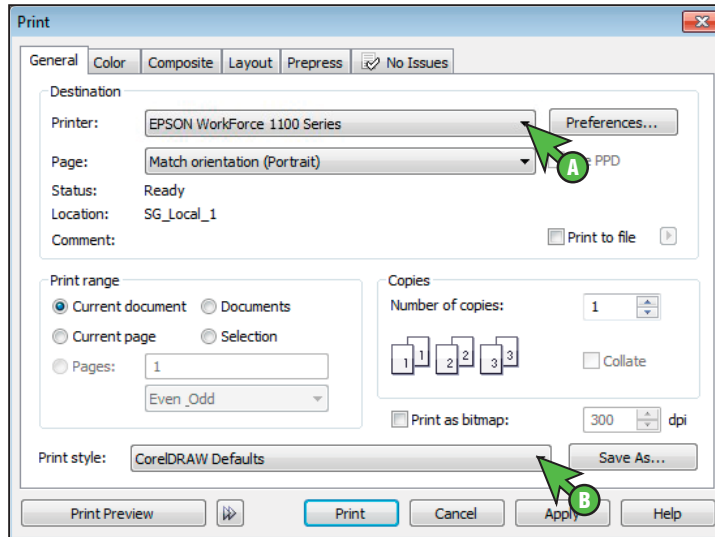

FIGURE 7
- 7.) With the correct color settings entered, you are now ready to print. In the Menu Bar, click **File > Print**. In the Print window, match your settings to those shown below (see *FIGURE 7*).